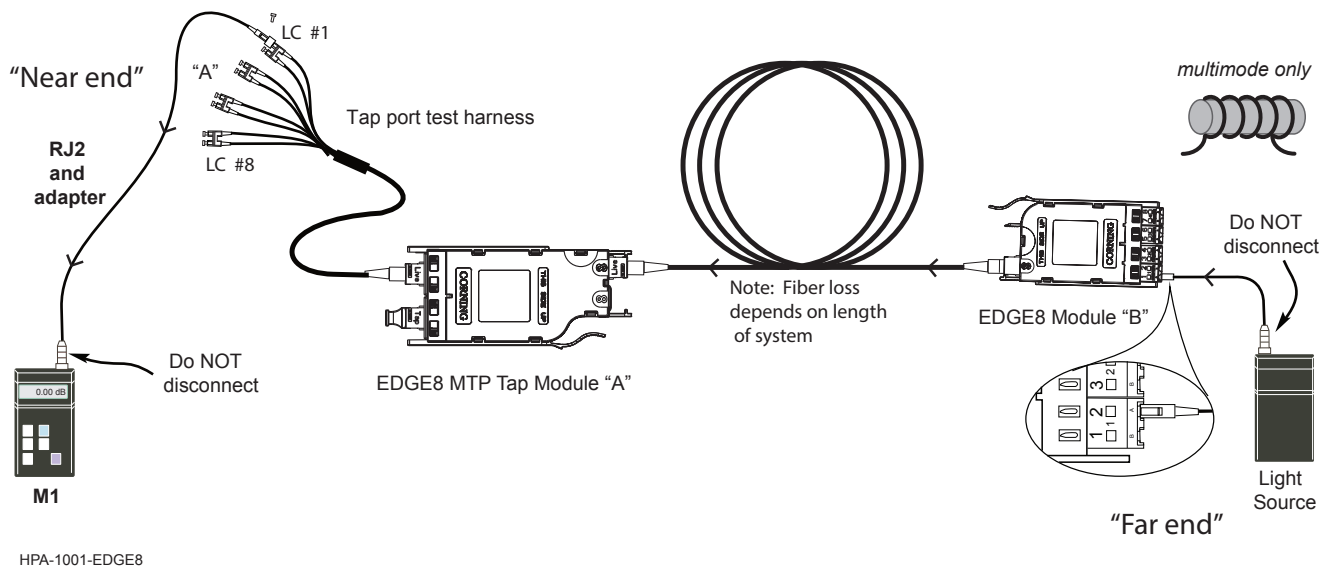

Figure 11
8.5. Table 3 provides a complete guide to the sequence for testing with the light source at Module “B”, or the “Far end” and the meter at the MTP Tap module “A” (“Near end”) of the system shown in Figure 11.
8.6 To begin testing the LIVE Portion of the MTP Tap module in the other direction (Figure 11):
Step 1: Install the **Light Source/RJ1 LC connector** into LC number 2 port of the EDGE8 module (Module “B” in Figure 11).